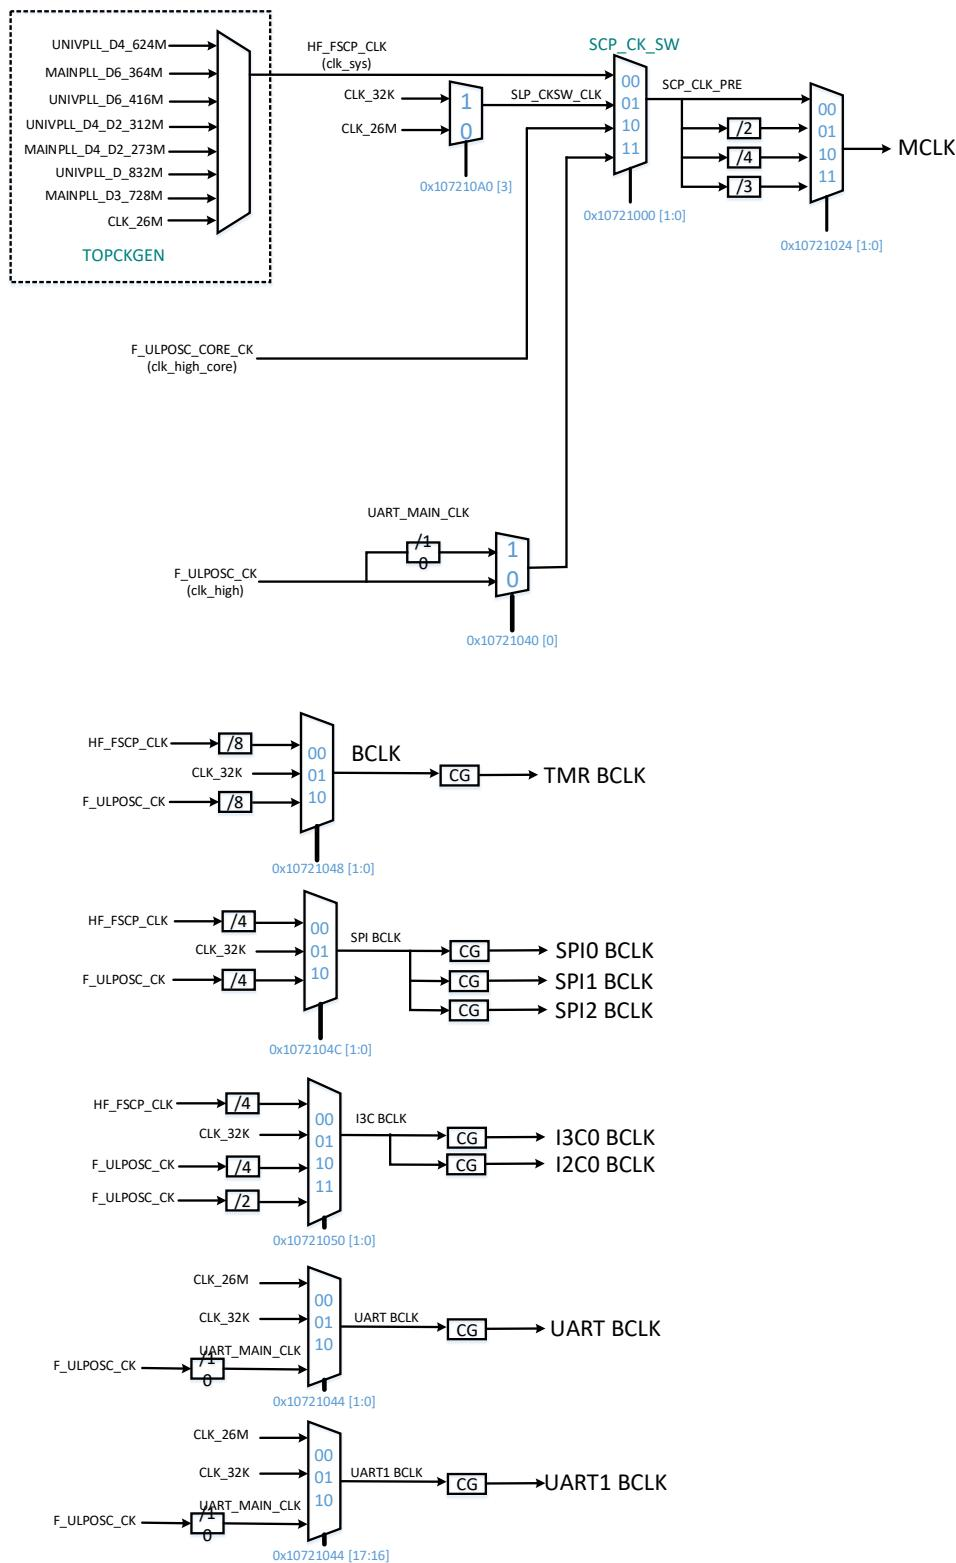

Figure 3-9 SCP Clock Structure
The clock source of the SCP subsystem is provided by HF_FSCP_CK, CLK_32K, CLK_26M, or CLK_ULPOSC (the four clocks are configured by the CLK_SW_SEL control register CR setting. Bus, RV55, and IP bus interface clock are controlled by the divider selection (MUX) control register and clock gating (CG) control register. The SCP clock structure is as Figure 3-9 shows.
In order to comply with the low speed IO protocol, the peripherals need to operate at the special clock period, I2C bclk, I3C bclk, SPI bclk, or UART bclk. The clock divider selection control register and the clock gating (CG) control register of low speed peripherals and IO are shown in Figure 3-9.